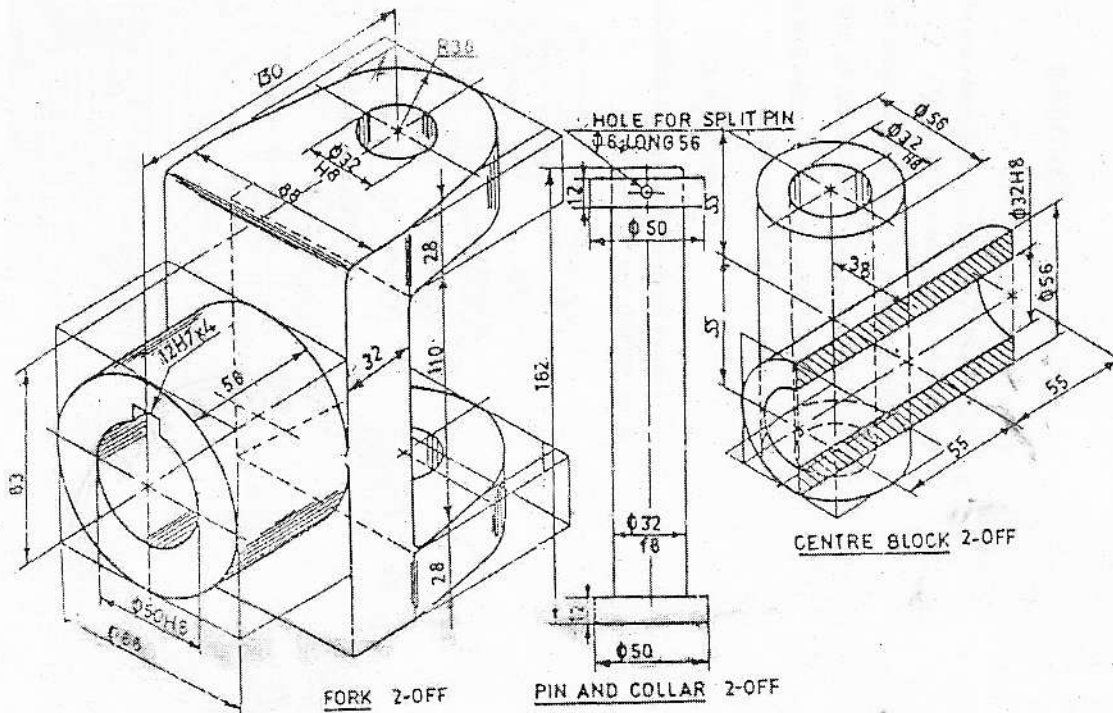

Fig. 2 Details of a Hooke's Joint or Universal Coupling
7. Fig. 2 shows the details of a Hooke's Joint. Draw the elevation upper half in section of the assembly. Also give the bill of material. (30)